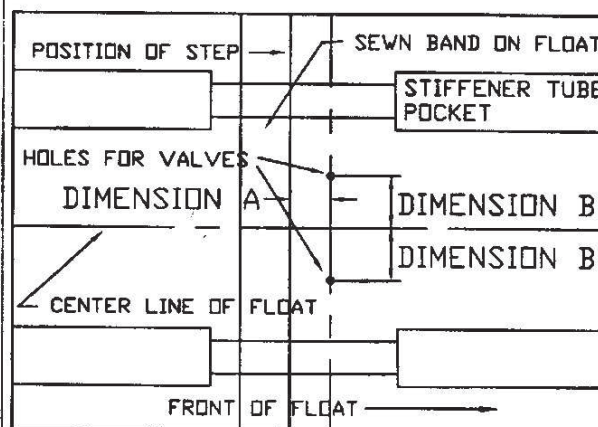

Fig. 2 Marking the valve holes.
- 3) Mark out the hole location as shown in Fig. 2. using the following dimensions:
3) Mark out the hole location as shown in Fig. 2. using the following dimensions. If your float is a recent model it may have a very small pin hole marking the location of the valves.